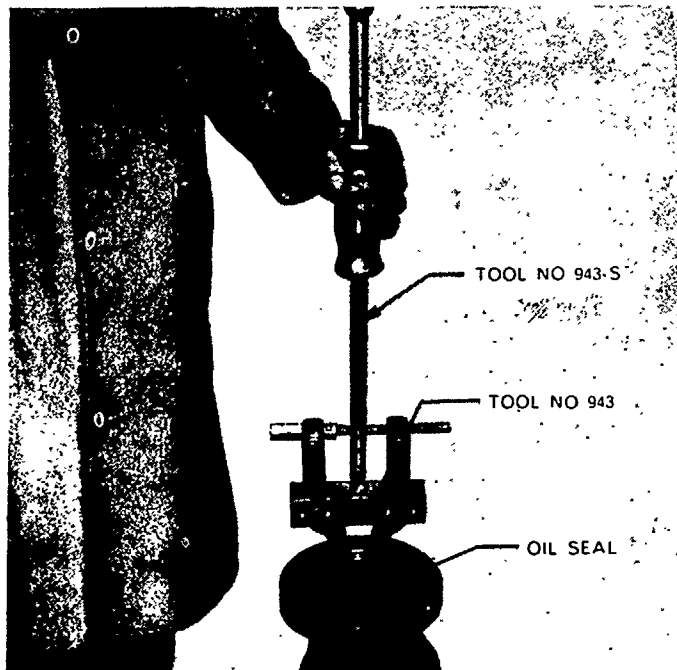

Figure 12
2. A new axle housing oil seal should be installed if necessary, the old seal may be removed using Tool Nos. 943 and 943-S, Figure 12, and installed using Tool No. 630-12.